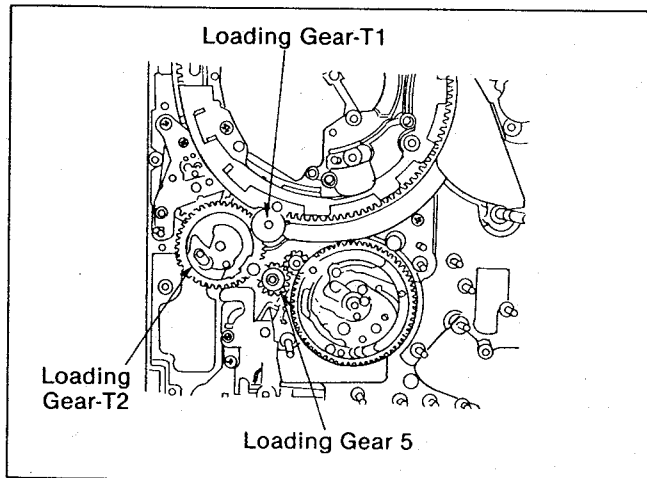

Fig. M10
- (4). Install the Loading Gear-T2 so that the mark on the the Loading Gear T2 is exactly in line with the mark of Loading Gear S as shown in Fig.M10,M11.
- (5). Install the Loading Gear-T1 so that the mark on the Loading Gear-T1 is exactly in line with the hole of T-Rack Guide.
- (6). Install the Loading Gear 5.
- (7). Insert the Cut Washer to each Loading Gear when phase of each gears are collect.